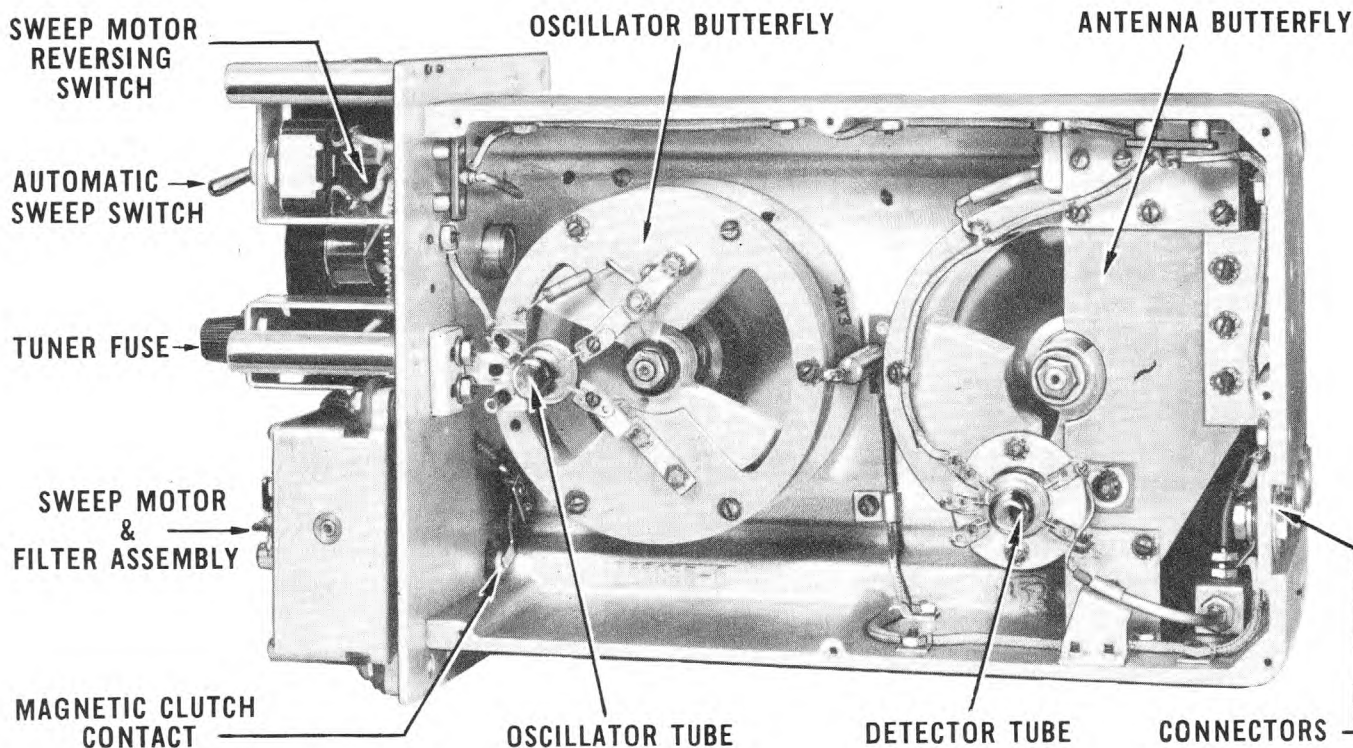
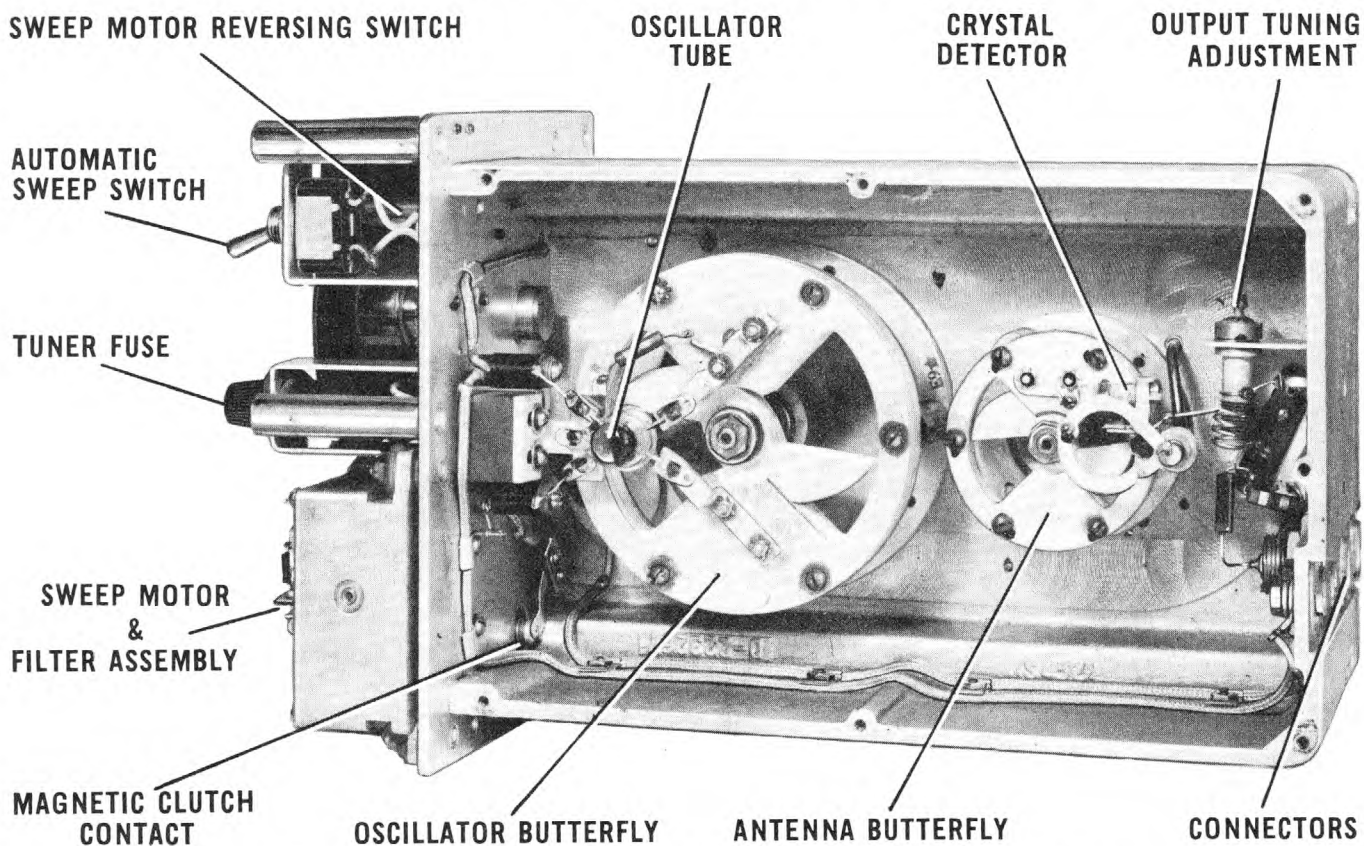

Figure 4-1. Tuning Unit TN-17/APR-4—Right Side View, Covers Removed
Figure 4-2. Tuning Unit TN-18/APR-4—Right Side View, Covers Removed
a. GENERAL.—Faulty tubes may be indicated by loss of sensitivity and volume or failure of the hetero-tone generator. The filament in all glass tubes should glow a dull cherry red when the power is on. Except at extremely low temperatures all metal tubes should feel warm or hot when touched. (See fig. 2-2, amplifier tubes; fig. 4-1, Tuning Unit TN-17/APR-4 tubes; fig. 4-2, Tuning Unit TN-18/APR-4 tubes.)
(1) Disconnect all cords and loosen the two knurled hold-down nuts at the lower corners of the receiver panel. Remove the receiver from Mounting Base MT-171/U.
(2) Remove the screws in the top of the case and loosen the fasteners in the rear of the case.
(3) Withdraw the receiver from the case.
(4) Replace defective tube by one known to be good. Use JAN-type tubes as indicated by each socket.
(5) Slide receiver into the case; lock rear fasteners, and replace top screws.
(6) Return receiver to mounting base and tighten hold-down nuts securely.
(7) Connect all cables and cords.